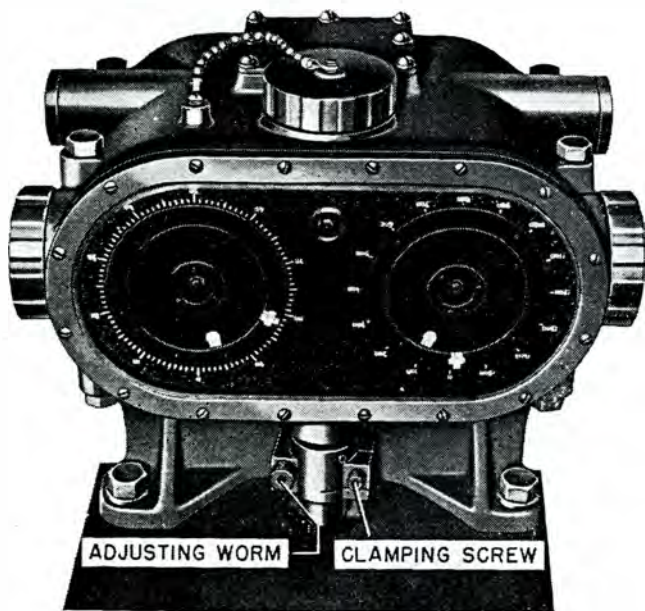

Figure 21. Indicator with adjustable coupling in drive shaft.
(2) An adjustable coupling is located in the indicator drive shaft for the purpose of making this adjustment. Loosen the clamping screw (fig. 21) on the adjustable coupling.
(3) Turn the adjusting worm on the adjusting device until the fine and coarse dials on the azimuth (or elevation) indicator read the exact azimuth (or elevation) at which the gun is set.
(4) Tighten the clamping screw when the correct azimuth (or elevation) is set, making sure that the setting does not change while tightening.